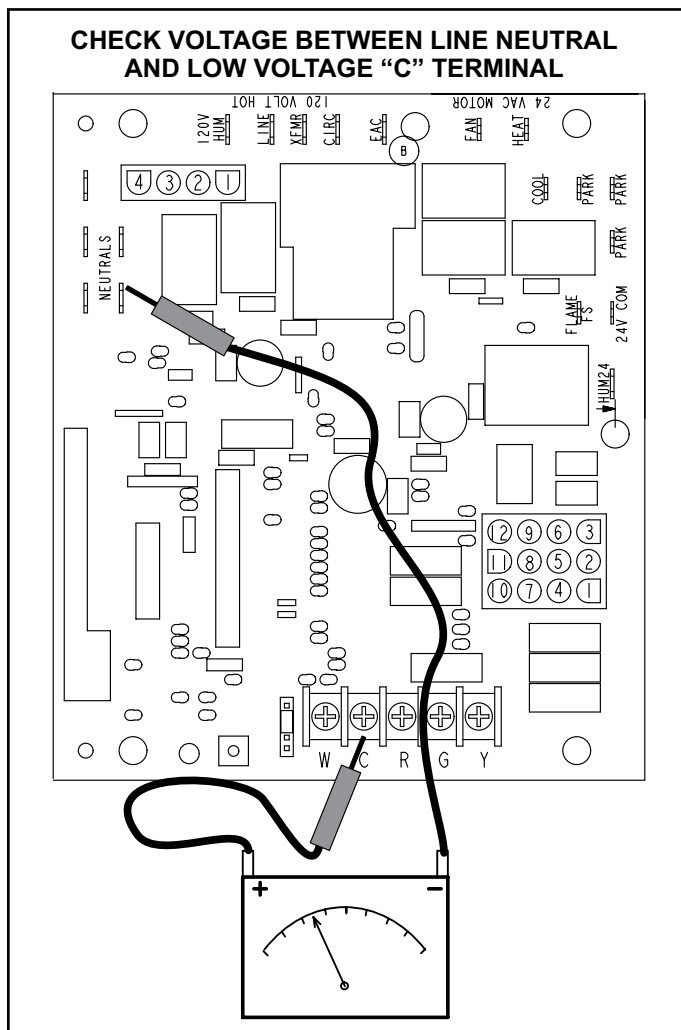

Figure 18.
1. Measure the AC voltage between Line Neutral (spade terminals) and "C" terminal (low voltage terminal block) on the integrated control. See Figure 18. A wide variation in the voltage between Line Neutral and "C" as a function of load indicates a poor or partial ground. Compare the readings to Table 13. If the readings exceed the maximum shown in Table 13, make repairs before operating the furnace.